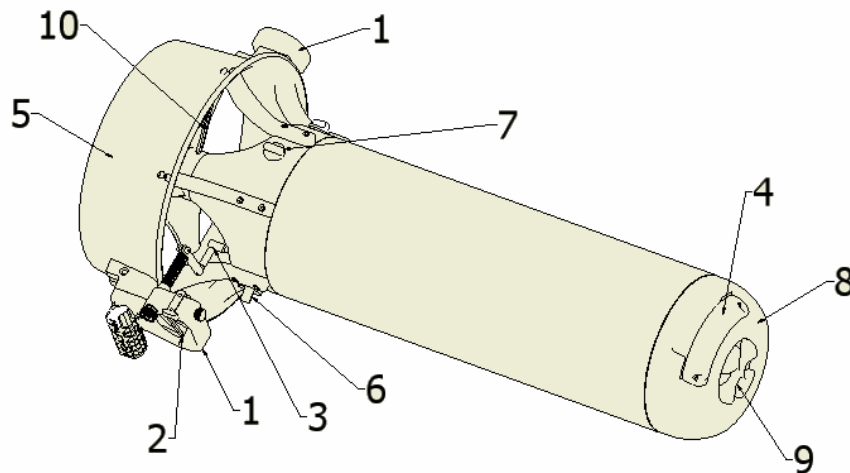

Figure 1
The HDV consists of a perfectly watertight, streamlined, hollow body, see figure 1, inside which the electric motor, rechargeable batteries and speed-reduction gear are housed. On the outside, two manoeuvring handles (1) are found at the rear, one of which has an integrated trigger (2) to control propeller rotation by means of a proximity switch (3). At the front, a handle (4) is used for gripping and carrying the vehicle. The propeller (10) is located at the rear end and is protected by a surrounding circular strip which constitutes the flow conveyor (5). The main switch (6) for turning the power on and off and the speed regulator knob (7) are also found at the rear.
Turn the front hand wheel (9) counter-clockwise. Rotating the hand wheel, the shell (8) (see fig. 1) start to lift. Continue rotating until the shell detaches from the engine body. Remove the shell.
Turn the switch (6) (see fig. 1) fully clockwise without forcing it.
Grasp the two HDV handles (1) (fig. 1) or, if using the tow cord, hook the carabineer to the tow sling.